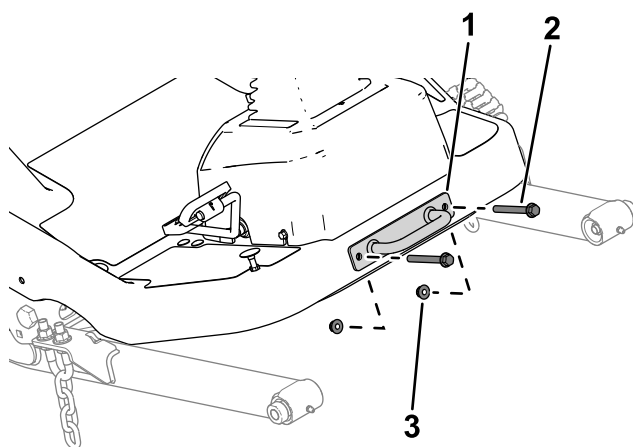

Figure 17
1. Remove the tie-down bracket from the platform (Figure 17).